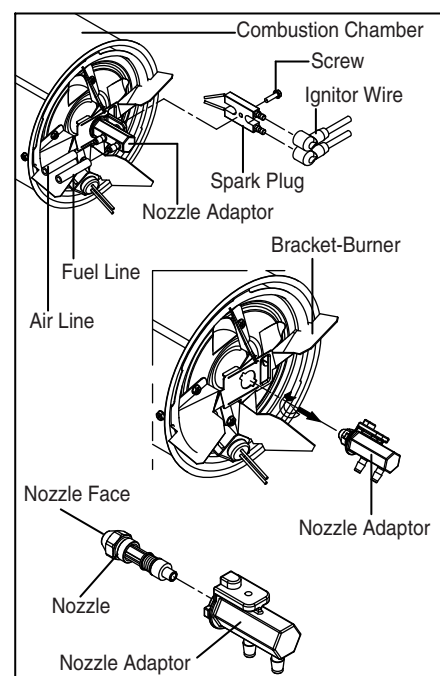

Figure 15. Nozzle Replacement
- Turn nozzle adaptor 1/8 turn (45°) to counter clock wise and pull toward motor to remove. (See Figure 15)